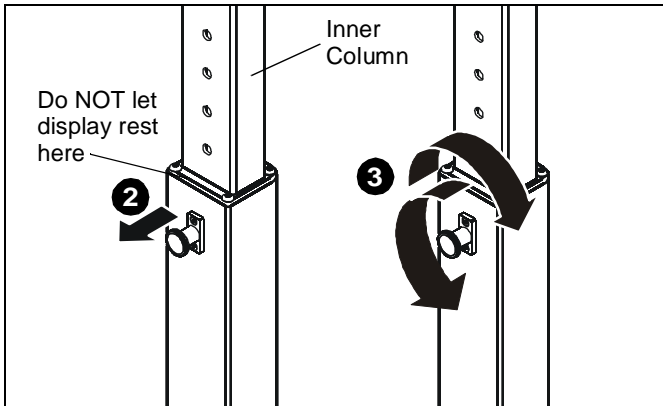

Figure 11
2. Adjust the stand to the desired height by slightly lifting the head assembly, pulling out knob on the center post and turning 90° in either direction to disengage the locking mechanism. (See Figure 11)
3. Raise or lower the center post, then turn the knob 90° either direction to engage the knob and lock the stand at desired height. (See Figure 11)
**IMPORTANT ! :** Set the height of the stand so the display does NOT rest on the lower part of the center post. (See Figure 11) Always set the height so the knob is engaged in a hole in the center post.